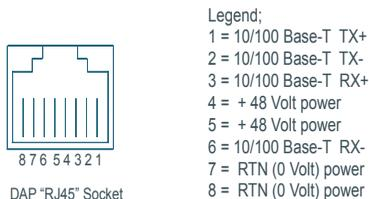

Figure 4-2 Pin Layout Ethernet Connector RJ45 on the DAP.
- Connector: Standard RJ45 connector, using the spare wires pins (wires). See Figure 4-2 "Pin Layout Ethernet Connector RJ45 on the DAP."